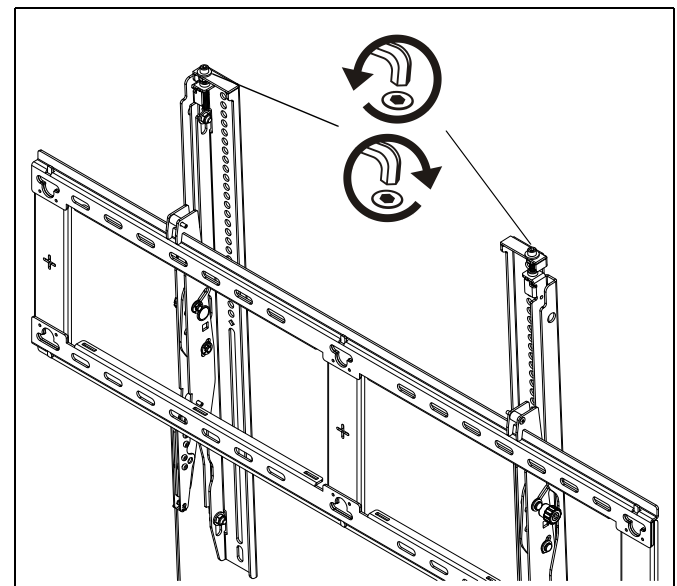

Figure 18
1. If required, adjust level of monitor by turning set screws on top of each interface bracket. Turn screws clockwise to lower the level and counter-clockwise to raise the level. (See Figure 18)